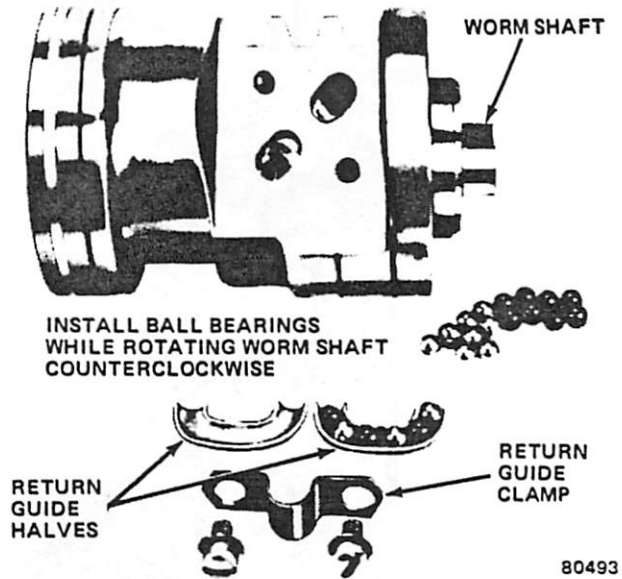
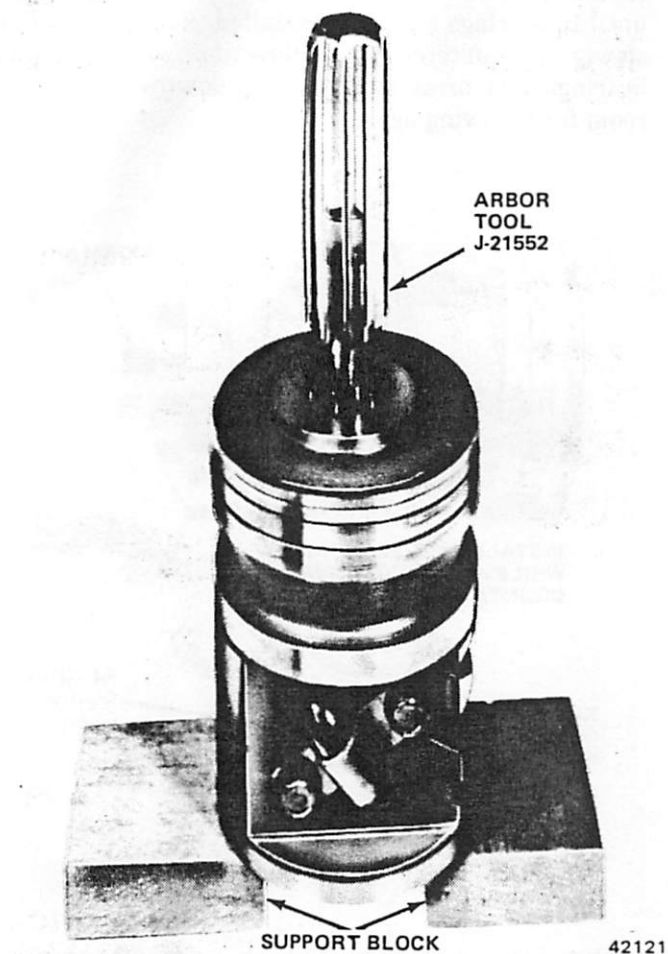

Fig. 2L-34 Rack Piston Ball Bearing Installation
Fig. 2L-35 Arbor Tool Installed in Rack Piston
(7) Fill one ball return guide half with petroleum jelly and install six remaining ball bearings in guide (fig. 2L-34). Be sure bearings in guide are in sequence with bearings in rack piston and that total of 24 ball bearings are installed (18 in rack piston and 6 in return guide).
(8) Assemble both ball return guide halves and insert guides in rack piston. Guides should fit loosely.
(9) Position ball return guide clamp over guides and install clamp attaching bolts and washers. Tighten bolts to 10 foot-pounds (14 N•m) torque.
(10) Insert Arbor Tool J-21552 into rack piston until it contacts wormshaft.
(11) Apply steady pressure against arbor tool to maintain contact with wormshaft and back wormshaft out of rack piston.
(12) Position assembled rack piston and arbor tool on end and support assembly on wood blocks until ready to install in housing (fig. 2L-35).